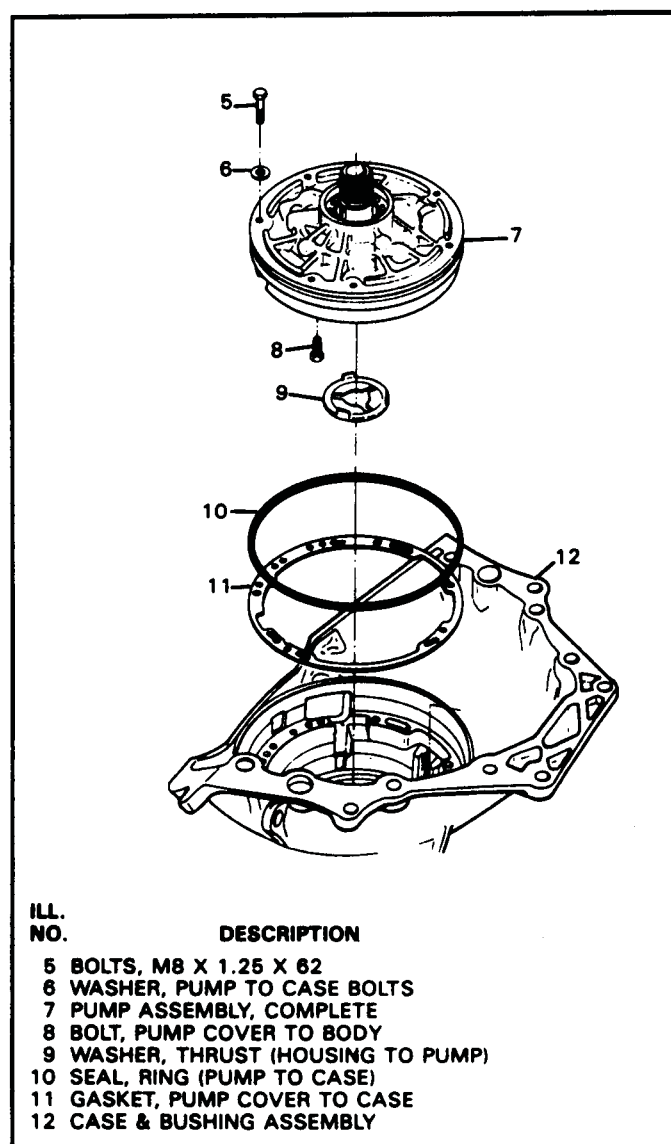

Figure 136
27. Install new pump to case gasket over the guide pins and onto case as shown in Figure 136.
29. Install the completed oil pump assembly over the guide pins and into the case, as shown in Figure 136.
30. Install the pump to case retaining bolts finger tight (See Figure 136).